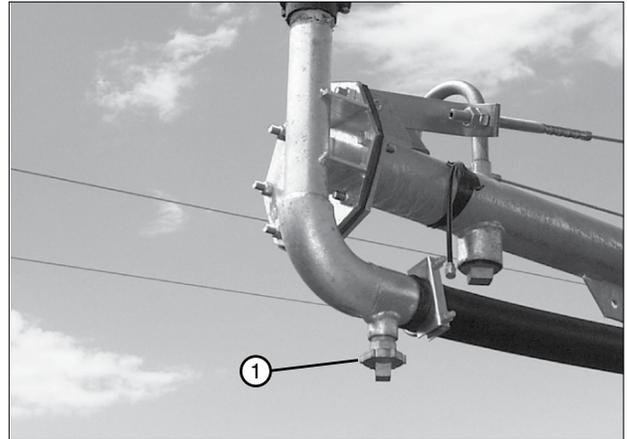

Figure 69-1 1. Overhang Drain
4. Remove plugs from the overhang drain. See Figure 69-1.